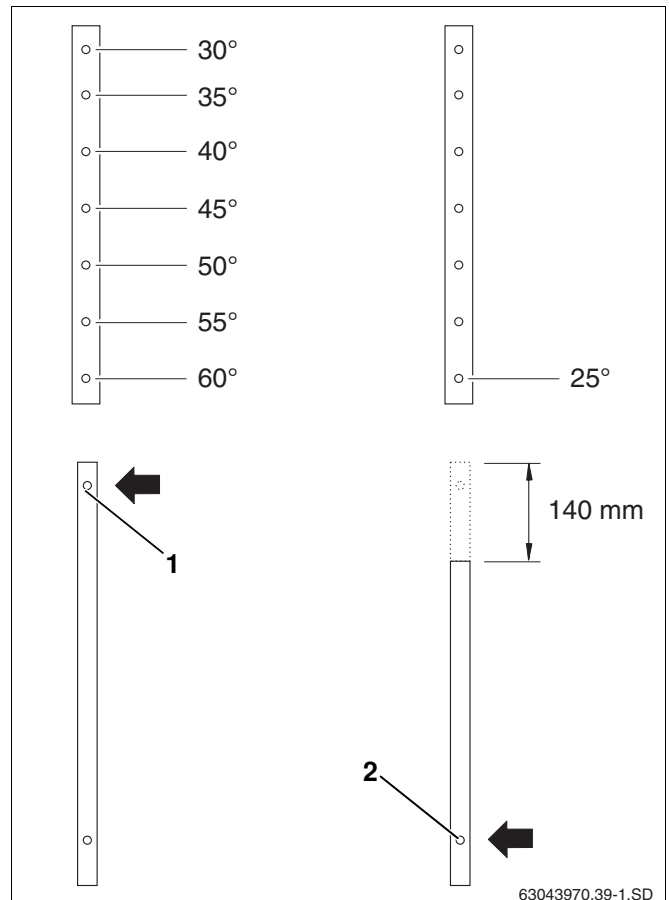
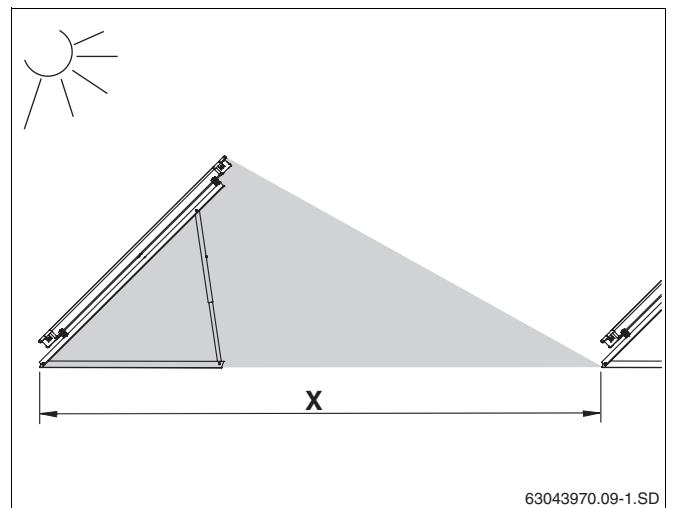

Fig. 12 Adjusting angle of inclination for collectors
Fig. 14 Shadow – clearance X
- Select holes on the upper and lower telescopic rails as shown in Fig. 12 and Fig. 14.
For installation of a collector with an angle of inclination of 30° to 60°, use the uppermost hole on the lower telescopic rail (Fig. 12, **Item 1**).
For an angle of inclination of 25° shorten the top of the lower rail by 140 mm and use the lower hole (Fig. 12, **Item 2**).
- For wall-mounted installation, use only the positions for the collector angles of inclination 30°, 35°, 40° and 45° (Fig. 14, **Item 1**).
When using multi-row arrays, note that the clearance X (Fig. 14) between the arrays must be large enough to avoid shadows falling over adjacent collectors.